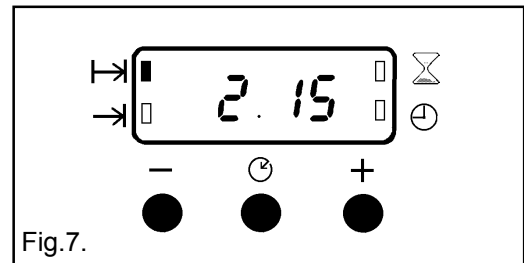

Fig.7.
- iii) To set the length of cooking time, press the Selector Control button ( ⌚ ) until the 'Cook Time' indicator is illuminated ( ⏰ ). Press the increase control ( + ) until the required length of cooking time is displayed, e.g. 2 hrs 15 mins as Fig. 7. If necessary depress the decrease control ( - ) until the correct time interval is achieved.